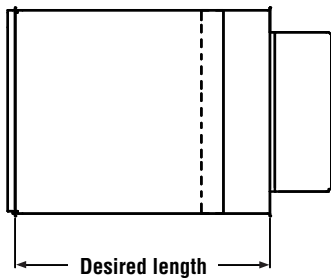

Figure 52 - Adjustable length, INSTALLATION STEP A
- Adjust the length of the chimney as required. If outer casing or inner flue are too long, they may be cut to length. You must keep the overlap of the outer casing to at least 1". You are only authorised to cut on the outer casing section attached to the female coupling. See **Figure 52**.